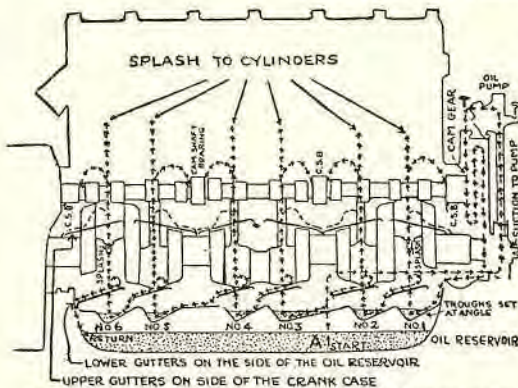

Fig. 13. Example of a splash-circulating lubrication system, showing the path of oil circulation (Hudson and Essex).
The oil is taken from the oil reservoir at (A) through a filter or metal screen (Fig. 13).
The upper gutters feed the main bearings in a continuous stream. The lower gutter feeds the oil directly into No. 2 oil trough (Fig. 13).